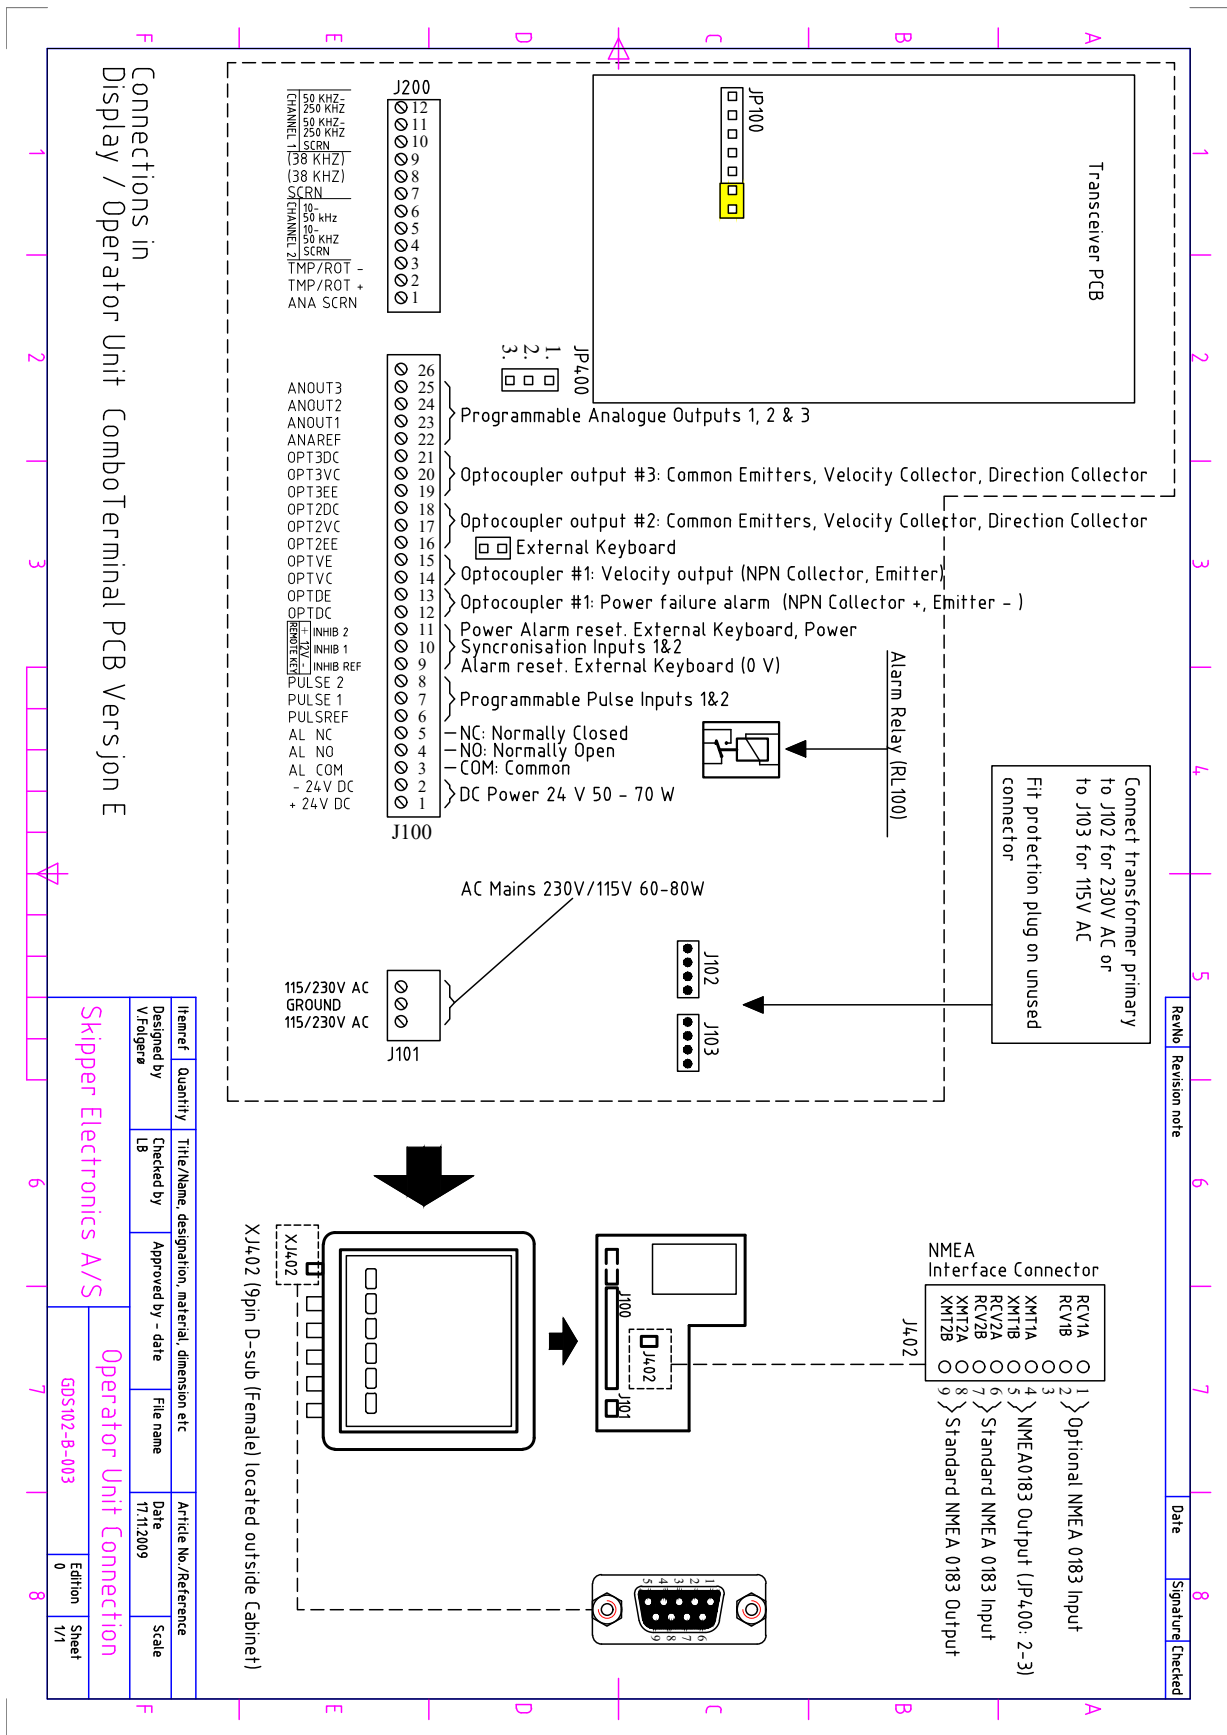
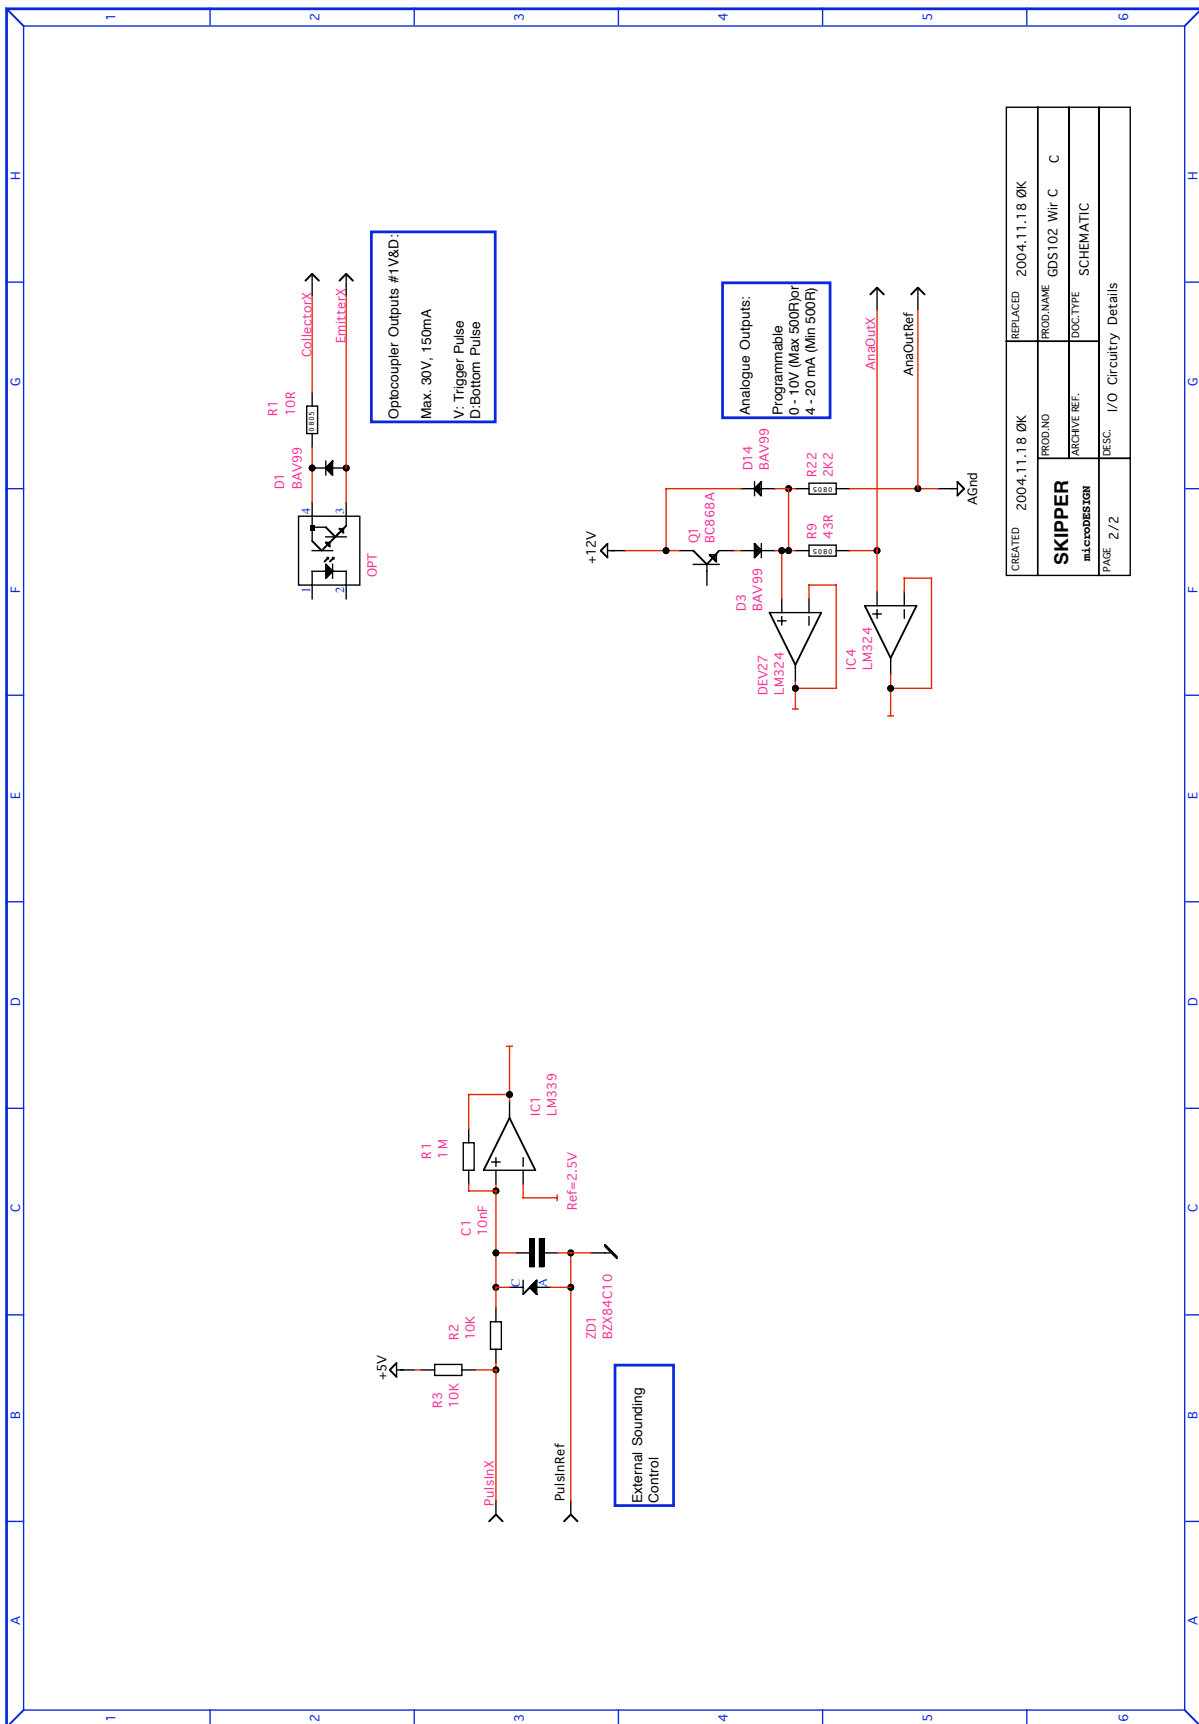
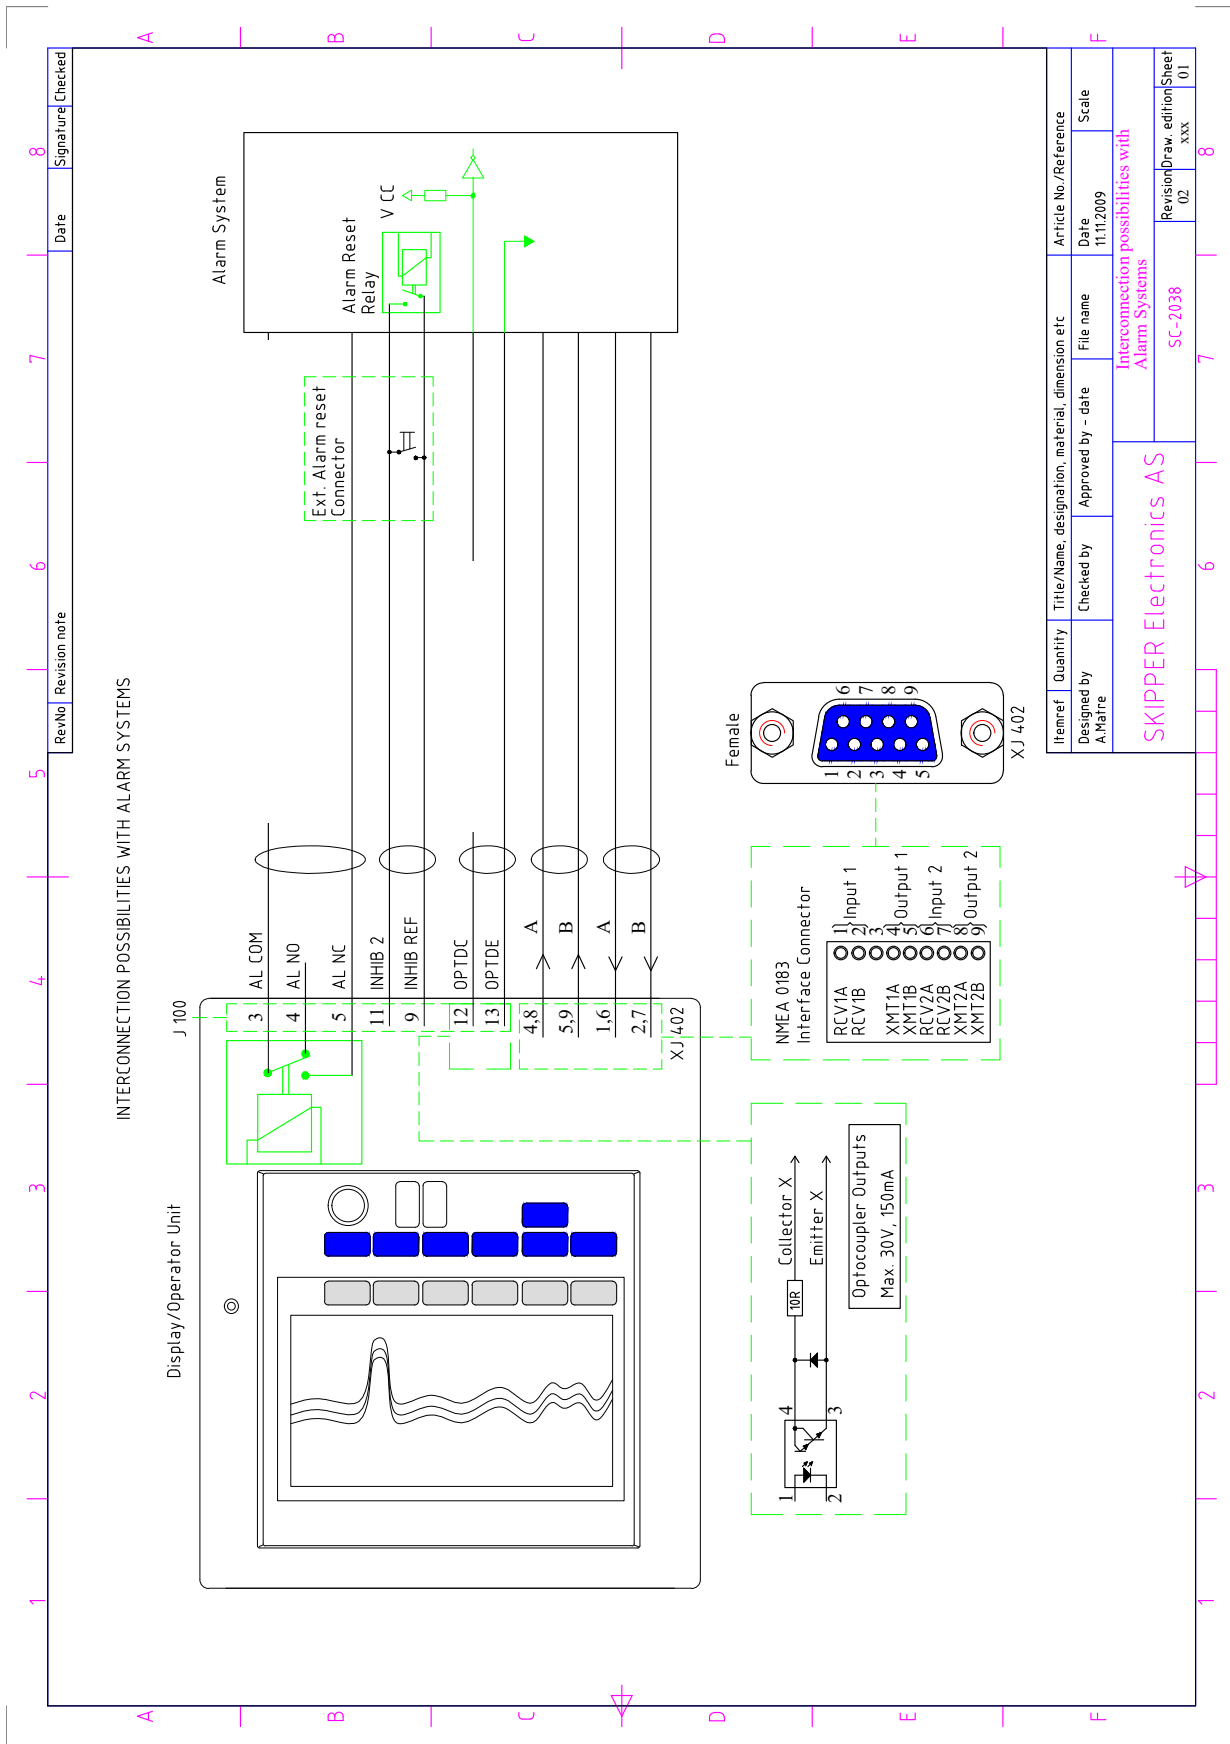

Fig. 3.8. Terminal board connections
Fig. 3.9. Input/Output Circuitry 1
Fig. 3.11. Input/Output Circuitry 3
The transducer is always connected with 1 pair plus screen. See “Fig. 3.8. Terminal board connections” on page 48.
The GDS102 NMEA outputs provide NMEA 0183 format information for other equipment with NMEA 0183 inputs. Baud rate is 4800 or 9600, 8 bit, no parity. Several messages may be selected on screen 10 (see “Fig. 2.11. Screen 10. NMEA control screen.” on page 23) and the enabled messages are transmitted with a maximum interval of one per second. The NMEA inputs accept speed, position, heading and UTC time messages from various navigators and compasses. The NMEA outputs and inputs are available on the XJ402 connector on the external panel. See “Fig. 3.5. Data Communication Interfaces.” on page 42, “Fig. 3.6. Data Communication Interfaces.” on page 43, “Fig. 3.8. Terminal board connections” on page 48 and “Fig. 4.1. nmea connector XJ402.” on page 55 for more details. Each of the outputs can supply more than 20 mA and can therefore drive at least 10 other standard NMEA 0183 inputs.
**Note:** The factory setting of jumper JP400 on the terminal board (underneath the dual transceiver PCB, see “Fig. 3.8. Terminal board connections” on page 48) is 1 to 2, providing two individually controlled NMEA outputs. If the jumper is moved in position 2 to 3, both outputs are controlled (baud rate and scope of transmitted sentences) by the settings of NMEA PORT 2 on screen 10. If the jumper is removed, only one NMEA output is available (NMEA PORT 2). In the last case, the settings for output of COM PORT 1 have no meaning. Both NMEA inputs are always available and individually programmable (baud rate) regardless of the setting of JP400.
See “Fig. 3.8. Terminal board connections” on page 48, “Fig. 3.10. Input/Output Circuitry 2” on page 50 and “Fig. 3.11. Input/Output Circuitry 3” on page 51 for connection details.
GDS102 is equipped with 2 analogue outputs to supply analogue repeaters or other equipment with analogue inputs. The signals are galvanically connected to the GDS102. Standard range is 0 - 10 V or 4 - 20 mA corresponding to shallow (ANA UPPER) and deep (ANA LOWER) settings. For more details, see “Fig. 2.8. Screen 7. Interface setup screen.” on page 20, “Fig. 3.8. Terminal board connections” on page 48, “Fig. 3.9. Input/Output Circuitry 1” on page 49, “Fig. 3.10. Input/Output Circuitry 2” on page 50.
Two optocoupler outputs provide a transmitter trigger pulse and bottom pulse output. These outputs can be used to connect a repeater e.g. SKIPPER IR201, or to synchronize other hydroacoustic equipment to avoid interference. See “Fig. 3.8. Terminal board connections” on page 48, “Fig. 3.9. Input/Output Circuitry 1” on page 49 and “Fig. 3.10. Input/Output Circuitry 2” on page 50 for output details.
The unit may optionally be operated from a remote keyboard. If you have combo terminal PCB version E (or higher), a jumper is provided (JP900) for 12 V. See “Fig. 3.8. Terminal board connections” on page 48. Otherwise modifications must be made (contact SKIPPER).
This option lets the GDS102 being controlled remotely in continuous/edge/level/single ping modes. If installed, these options are accessible on screen 3. See “Fig. 2.4. Screen 3. Power adjustment and options.” on page 16, “Fig. 3.8. Terminal board connections” on page 48, “Fig. 3.9. Input/Output Circuitry 1” on page 49 and “Fig. 3.10. Input/Output Circuitry 2” on page 50 for more details.